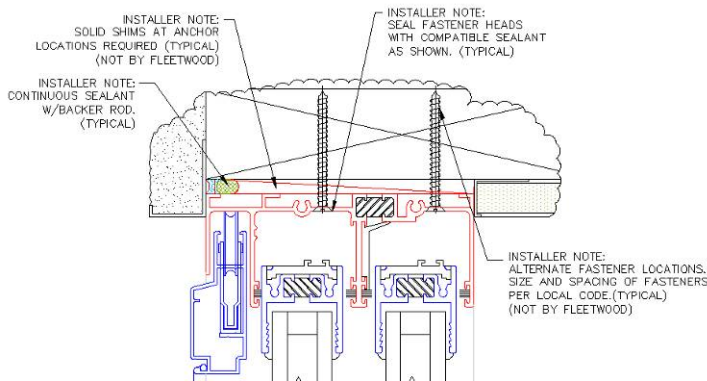

Figure 15:
- Attach frame to structure as shown below (Figures 15 & 16).